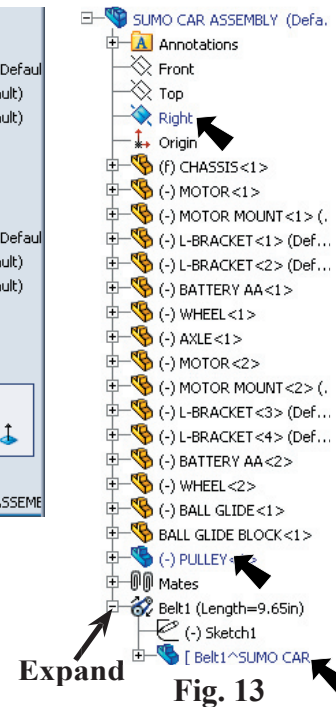

Fig. 13
Expand the Design Tree in the top left corner of the drawing area and select **Right** (plane), Fig. 13
**and select BELT part** , Fig. 13